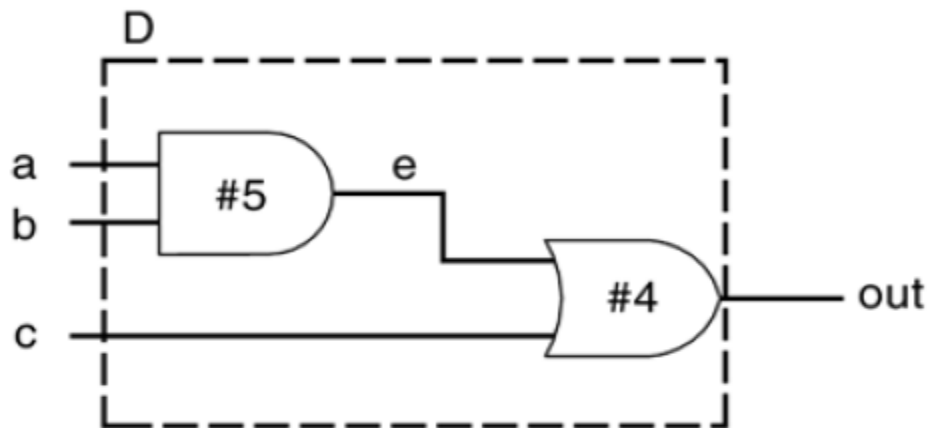

Figure 3-8. Module D
- The gate-level implementation is shown in Module D (Figure 3-8). The module contains two gates with delays of 5 and 4 time units.